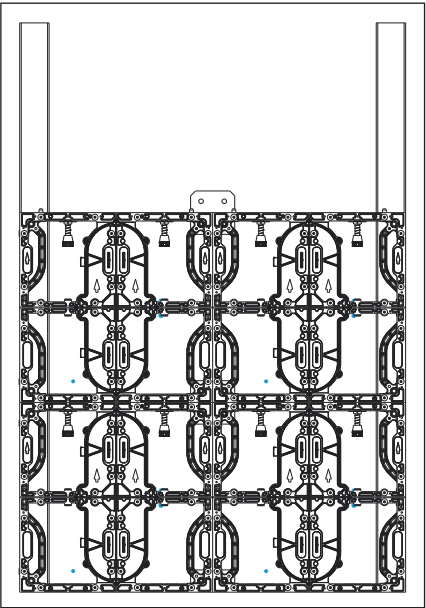
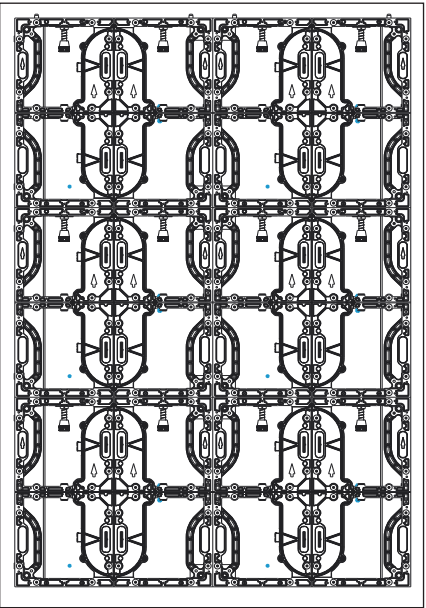

Figure 4: Install Second Row
Figure 5: Install Remaining Rows
- 9. Continue installing panels in the next row and up until all panels are installed. Refer to **Figure 4** and **Figure 5**.